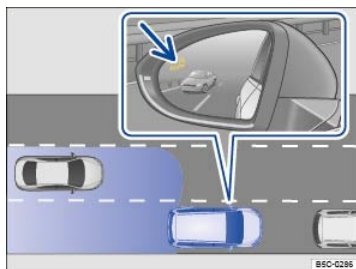
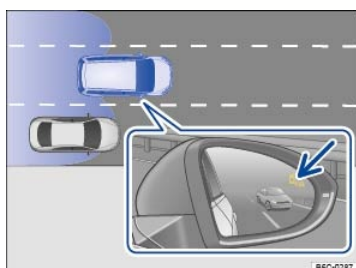

Fig. 147 Driving situation when passing with traffic behind your vehicle. Arrow: Blind Spot Monitor indicator light in the driver side mirror.
Fig. 148 Driving situation when passing and merging into the lane. Arrow: Blind Spot Monitor indicator light in the passenger side mirror.
The following situations result in a signal in the outside mirror ⇒ Fig. 147 (arrow) or ⇒ Fig. 148 (arrow):
- If your vehicle is being passed by another vehicle ⇒ Fig. 147 .
- When passing another vehicle ⇒ Fig. 148, and the difference in speed between the two vehicles is no more than about 6 mph (10 km/h). There is no signal if the passing speed is clearly faster.